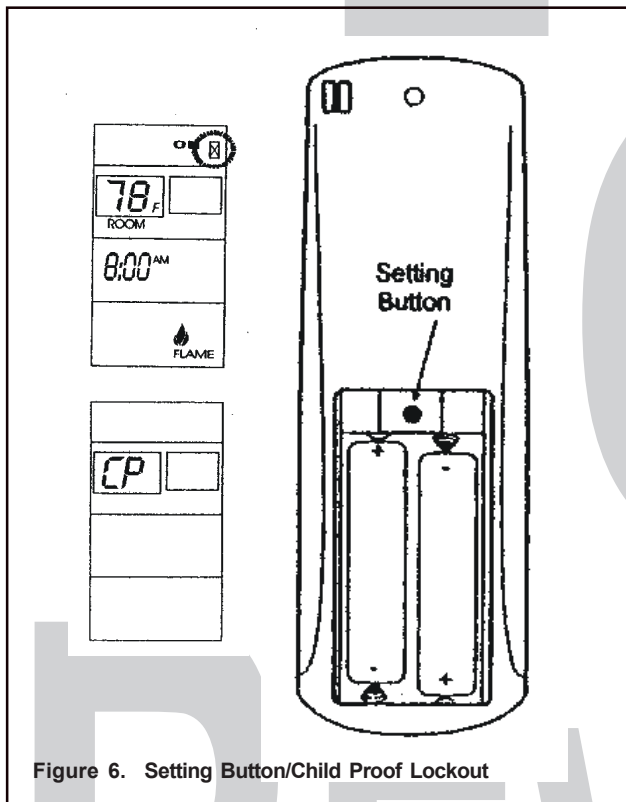

Figure 6. Setting Button/Child Proof Lockout
1. Remove the battery cover on the back of the transmitter and locate the “setting button” at the top center of battery compartment (see Figure 6).
1. Press and hold in the "setting button" for 5 seconds. The letters CP will display on the LCD screen (see Figure 6). This prevents the activation of fireplace. When any function button is pressed ON/OFF etc. the letter CP will display on the LCD screen.